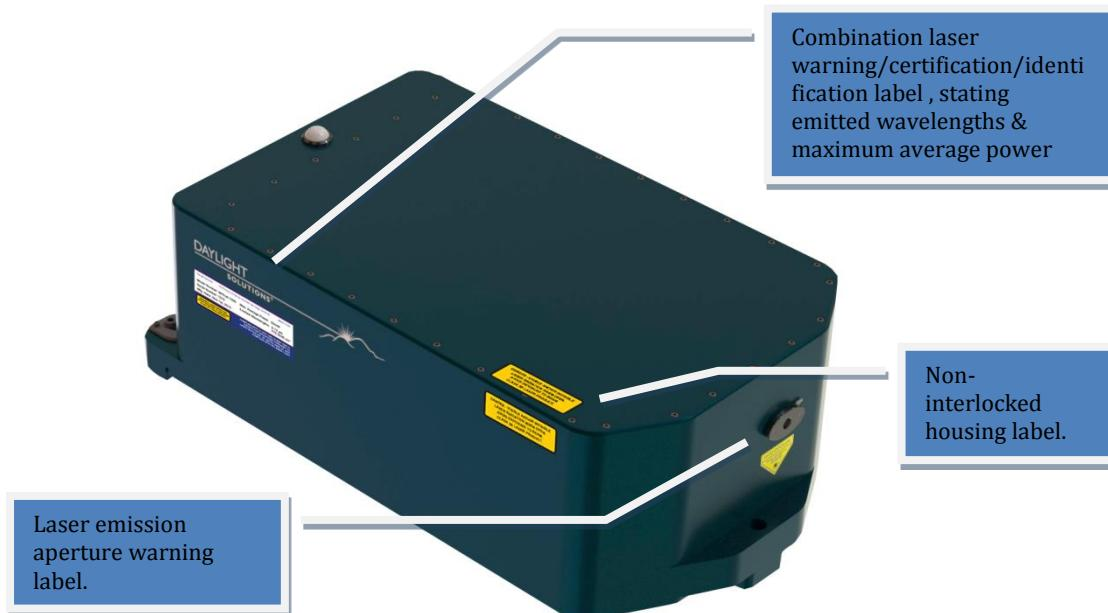

Figure 2. Radiation control diagram - position and type of laser safety warning labels on MIRcat laser head.
The laser radiation emitted from this unit is invisible to the naked eye and may be harmful if the beam makes direct and prolonged contact with the eye. In some units, depending on options selected at time of order, the laser may also emit visible laser radiation. Eye protection, in the form of laser safety glasses, is necessary for lasers with average power outputs greater than 9.6mW. The specific wavelength range and maximum average power output of each laser beam emitted by your system is listed on the safety label affixed to each MIRcat Laser Head, as shown in Figure 2. The user must review this safety label and/or the final test data sheet included with your system to determine safety glasses suitable for the range of wavelengths and output power emitted. As general guidelines, however: a) recommended Optical Density (OD) for safety glasses is at least 5 for wavelengths in the range 3 μ m to 14 μ m; b) provided direct or prolonged viewing of the visible aiming beam (if included in your system) is avoided, safety glasses that protect against this visible wavelength should not be necessary. Regardless of general guidelines given here, users should consult with laser protective eyewear vendors for help selecting laser safety glasses, and to confirm that selected eyewear will provide sufficient eye protection.